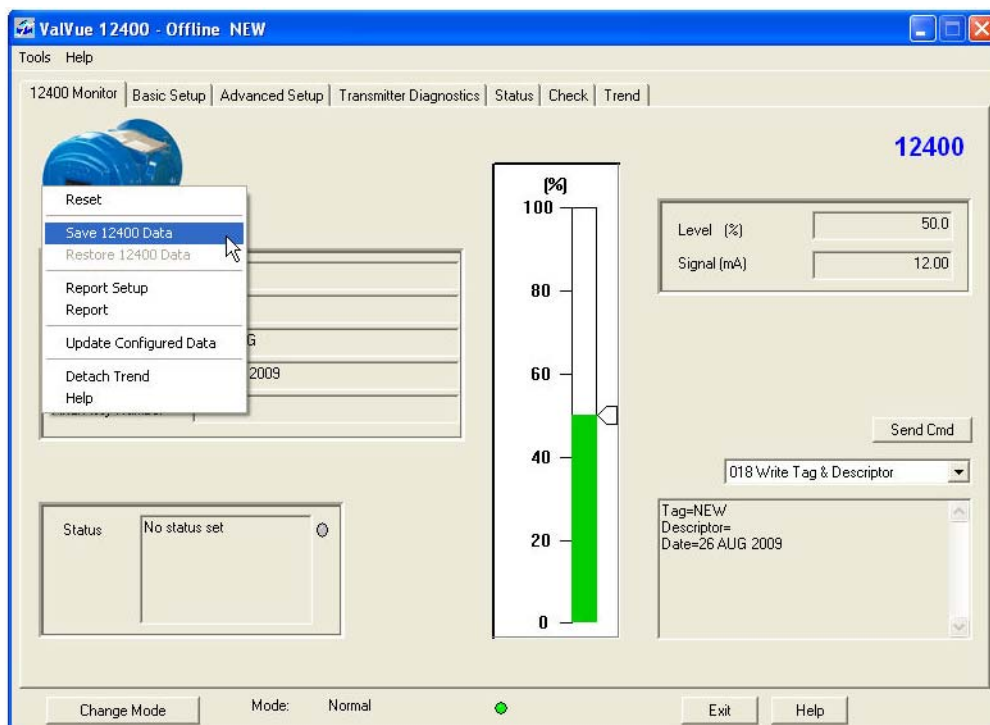

Figure 107 Selecting Saved Data
- Right-click on the *12400 Monitor* screen to pop up the context menu and select **Save 12400 Data** (Figure 107).